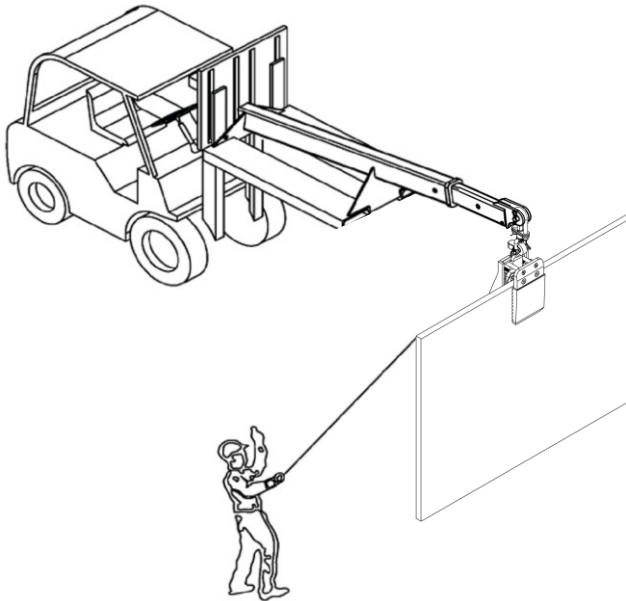

Figure 4.1
**Step 4:** Move the stone slab to the desired position (Figure 4.1).